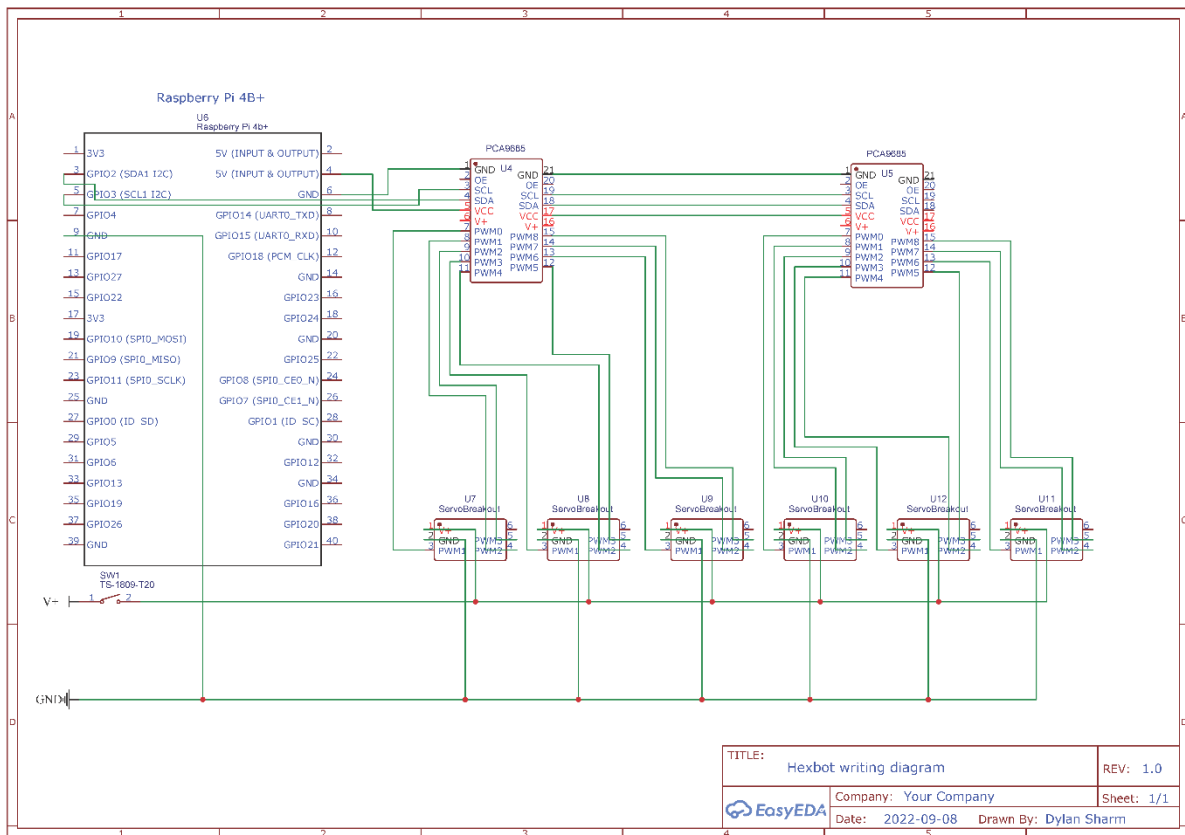

Figure 15 – 14 Electronics Assembly, Electronics Wiring Diagram
2. Using the jumper wires, connect the signal connections (PWM1, PWM2, and PWM3 on the PCBs) to the motor driver board by following **Figure 15**.
2. By measuring out the length of the wires, use the 25A red and black wires to connect the PCBs to the power screws based on the wiring diagram shown on **Figure 15**. Red wire crimps should be used to connect the wires together.
1. Using jumper wires, connect the servo driver boards together with the raspberry pi as show in **Figure 15**.
3. Attach this between the raspberry pi and the negative power screw as shown in **Figure 15**.